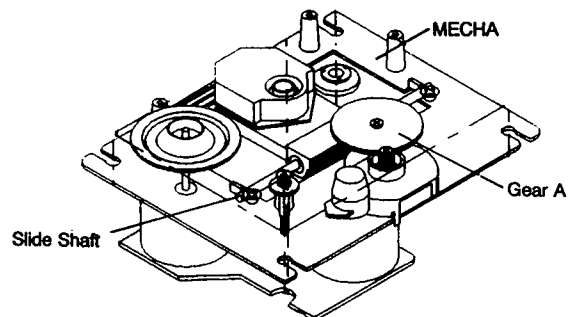

Fig. 9
3. Remove the gear A (See Fig. 9).